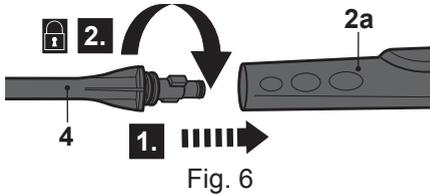

Fig. 6
> Align the tongues of the pressure lance (4) with the grooves of the lance connection port (2a) of the spray gun (2) and insert it (Fig. 6, step 1).
> Securely fit the pressure lance (4) by turning it clockwise and letting it lock into place (Fig. 6, step 2).